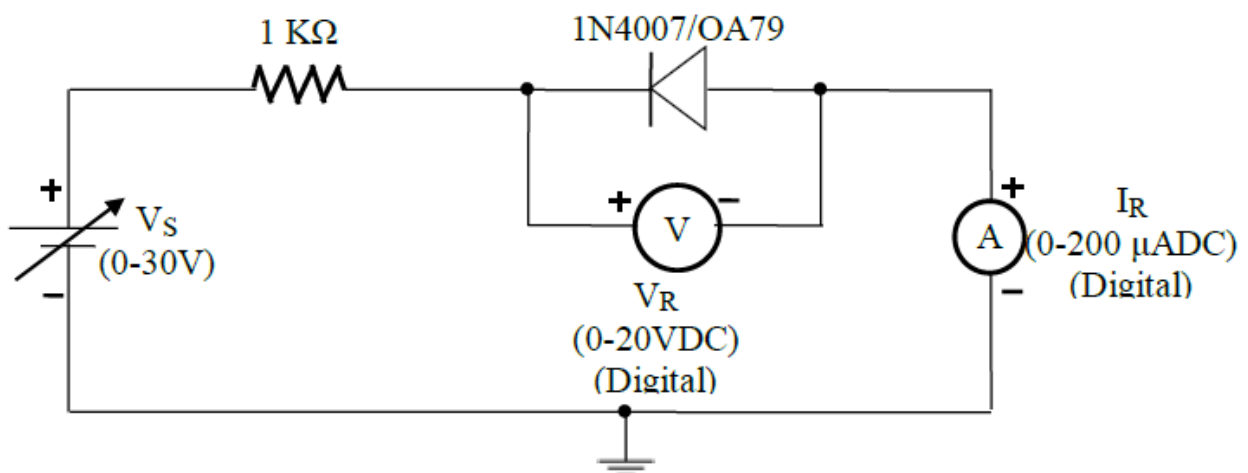

Fig. 2 Schematic for Reverse Bias
1. Now connect the circuit according to the schematic in Fig 2. Increase the voltage in steps of 2V up to 8V and then at 16V, 20V, 25V and 30V while noting down the reverse current in Table 2.